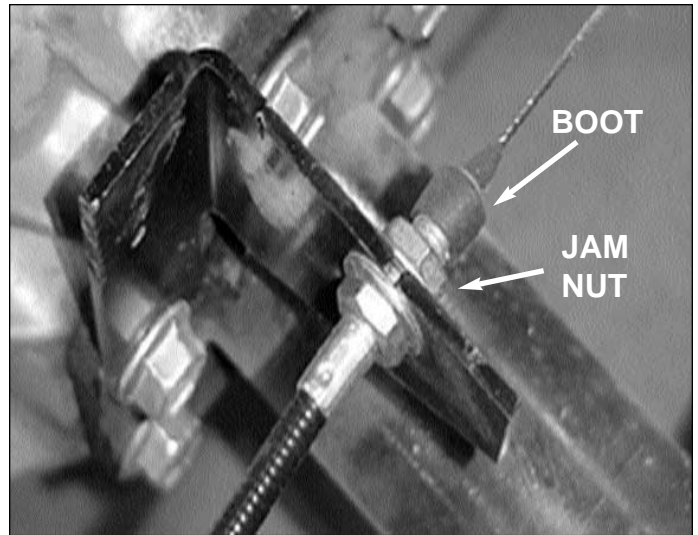

Figure 8 - Accelerator Bracket
2. Slide dust boot off accelerator cable. Remove jam nut completely, and slide cable from slotted accelerator cable bracket. See Figure 8.
9. Position a floor jack under transaxle gearbox. See Figure 14. Be sure the lifting pad of jack engages gearbox so it will not slip off. Block ahead and behind front tires. Then, raise vehicle enough to position jack stands under rear fork tubes as shown. See Figure 8.